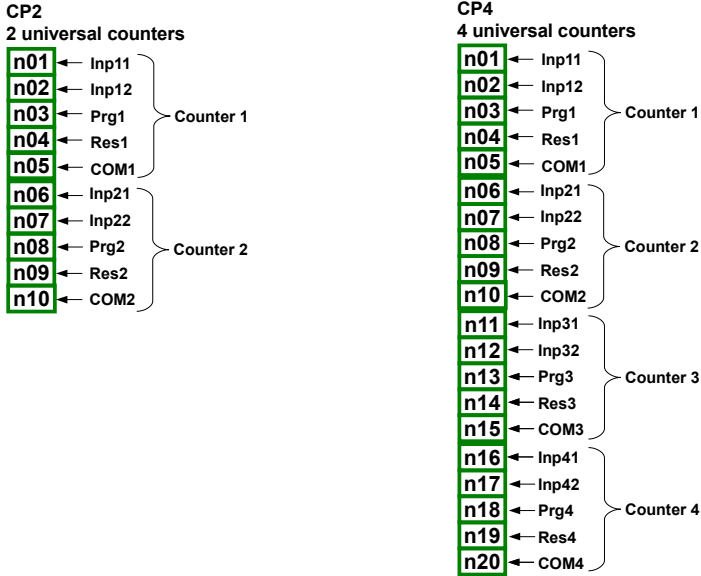
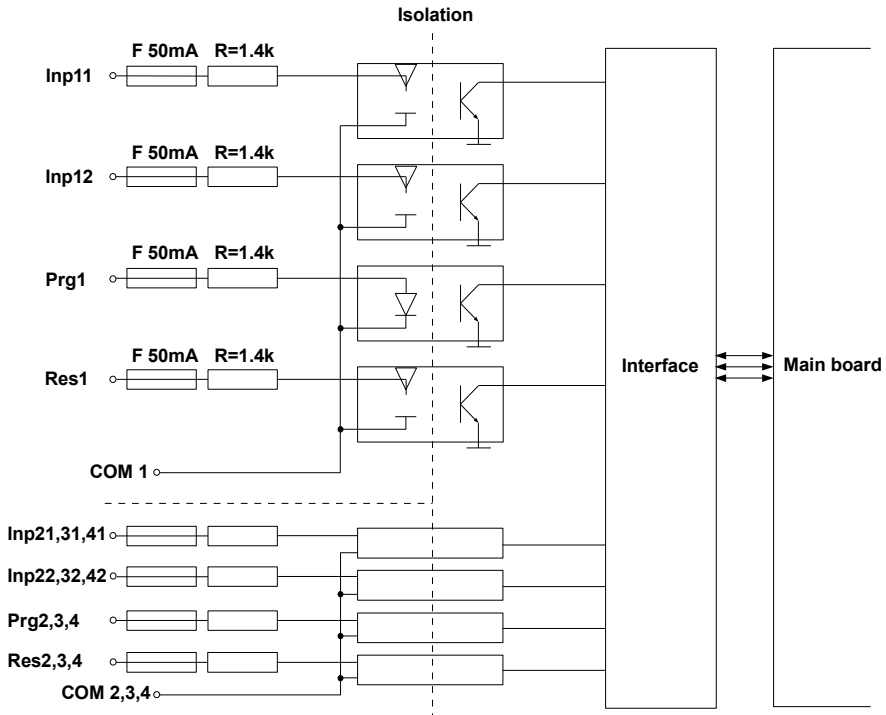

Fig. 8.19. Optoisolated counter modules
Fig. 8.20. Internal structure of the optoisolated Universal counters modules
**CP2** and **CP4** are the modules of the universal 4-input counters (Fig. 8.19). Each counter has a common terminal (**COM**) and is optically isolated from other counters and the **MultiCon CMC-99/141** GND signal as well, see Fig. 8.20.